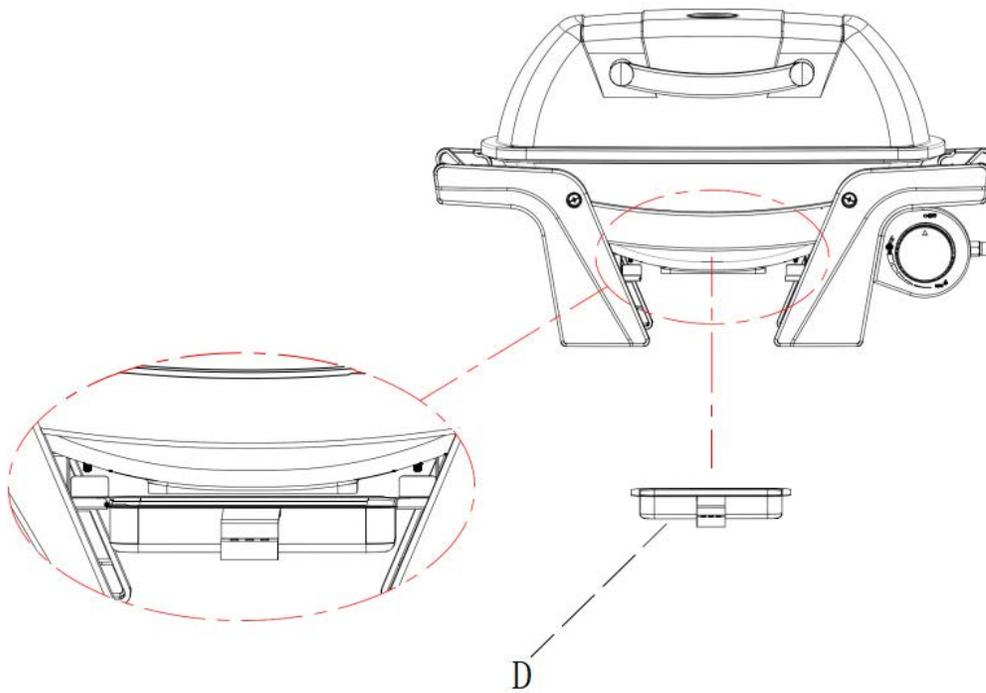

Figure 04.
Place grease tray(D) on the grease support of fire bowl as figure 04 .